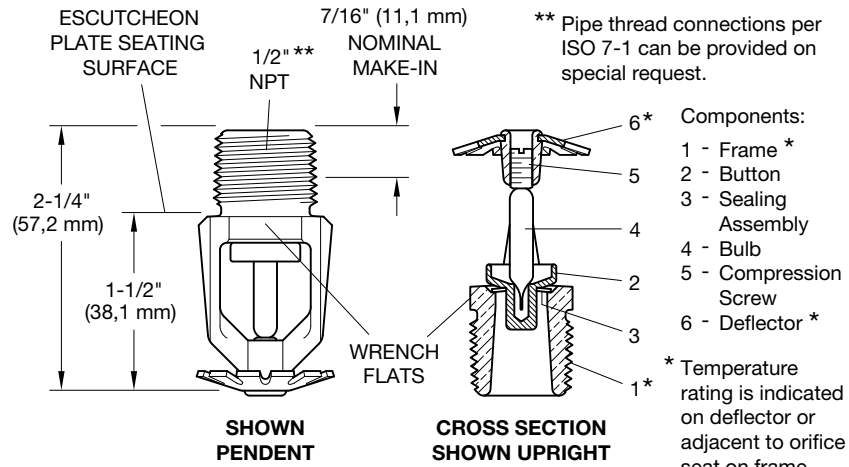

FIGURE 5
Step 2C. Tighten the sprinkler into the sprinkler fitting using only the W-Type 6 Sprinkler Wrench (See Figure 16). With reference to Figures 5, 6, 7, and 8 the W-Type 6 Sprinkler Wrench is to be applied to the wrench flats.